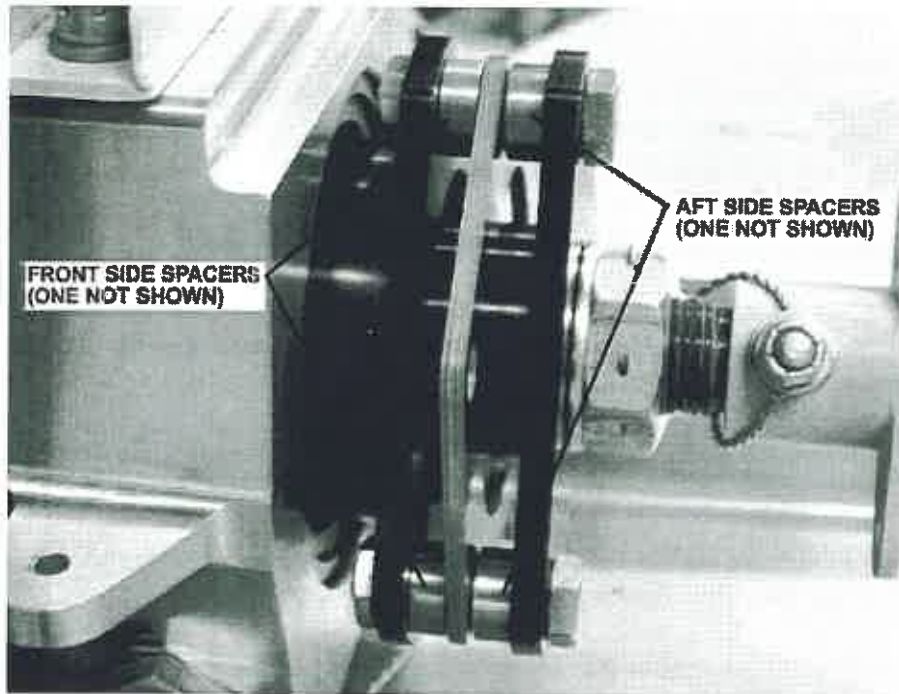

Figure 1 - Aft Coupling Assembled for Alignment
3. When reassembling the aft coupling for alignment, all three spacers on the front side of the flex pack must be of equal thickness, and all three spacers on the aft side of the flex pack must be of equal thickness (See Figure 1).